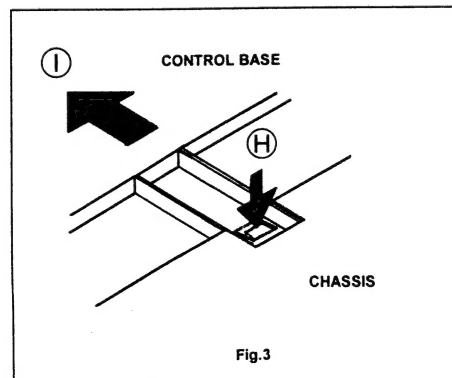

Fig. 3
1. While pushing down the claws marked (H), remove the CONTROL BASE in the arrow direction (I) as shown in Fig. 3.